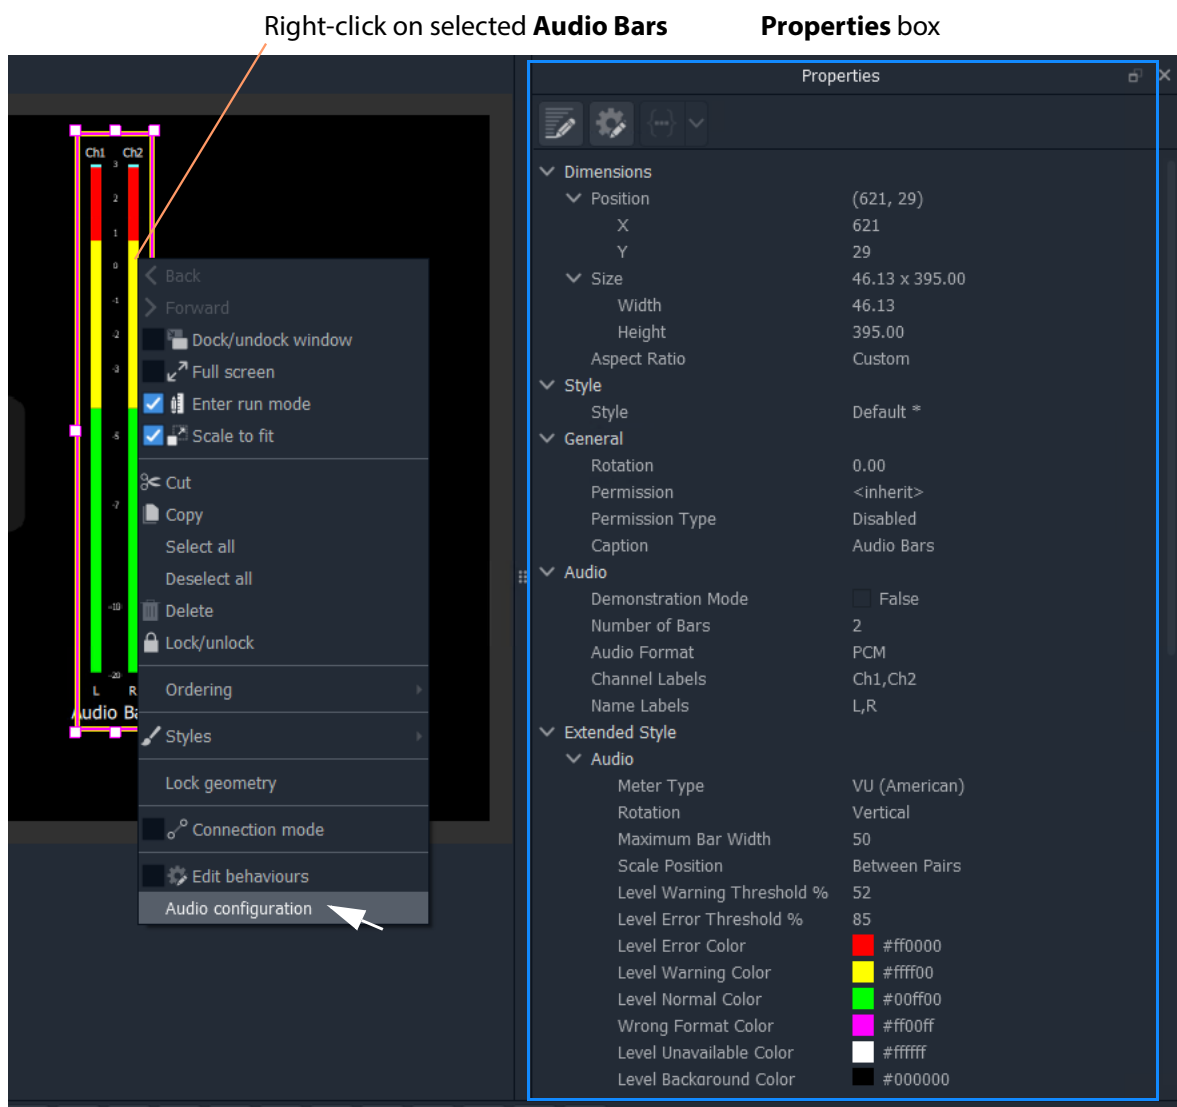

Fig. 17-2: Right-Click on Audio Bars Widget
The **Audio Bars** widget may be set up by selecting the widget in the **Tile Editor** and modifying properties in the **Properties** box. See Figure 17-2.
- 2 Right-click on the widget and select 'Audio Configuration' in the pop-up menu. (See Figure 17-2.)